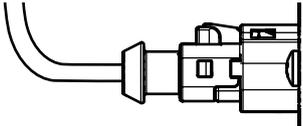

Fig. 5
- It is advisable to use a rigid protection on the back of the connector (backshell) so as not to cause a bend angle too close to the connector (Fig. 5) thus compromising its watertightness